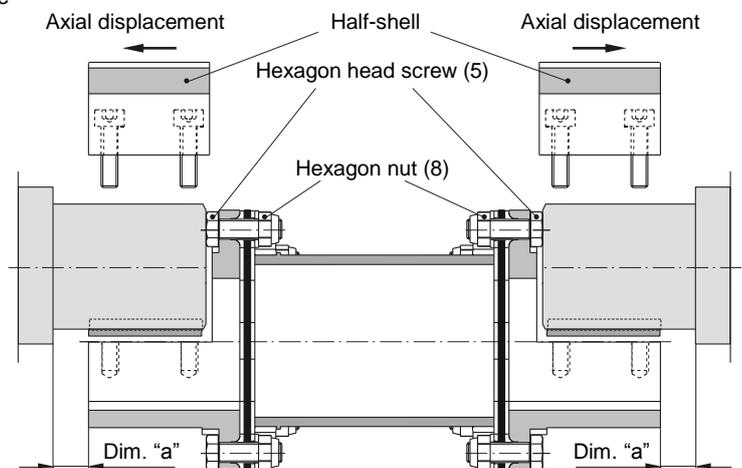

Fig. 8
On Type 951.8__, radial installation is only possible if the half-shell is axially moved by a minimum dimension "a" (Fig. 8 / Table 8).
- c) Place the coupling from above onto the shafts and pre-assemble it with the respective half-shells (Fig. 8).